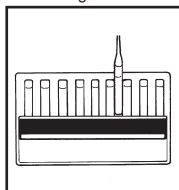

Figure 4
7. Obtain a test result by placing the ampoule between the color standards until the best color match is found (fig. 4).